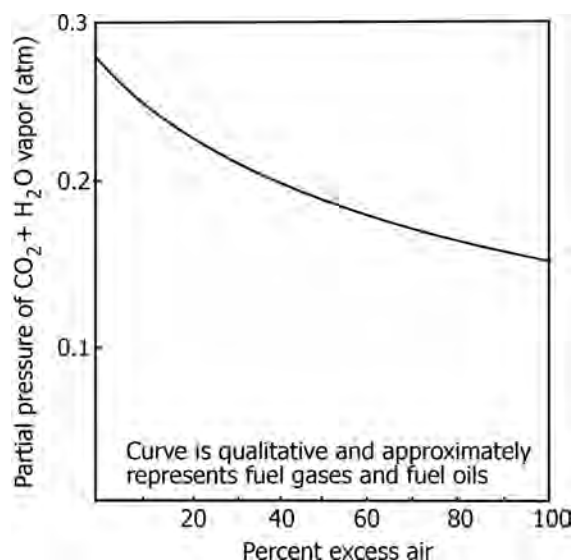

FIGURE 14.7 Partial pressure of $\text{CO}_2 + \text{H}_2\text{O}$ in flue gases.
- Figure 14.7 shows the partial pressure of $\text{CO}_2 + \text{H}_2\text{O}$ vapor as a function of excess air for the hydrocarbon fuels normally used for firing.